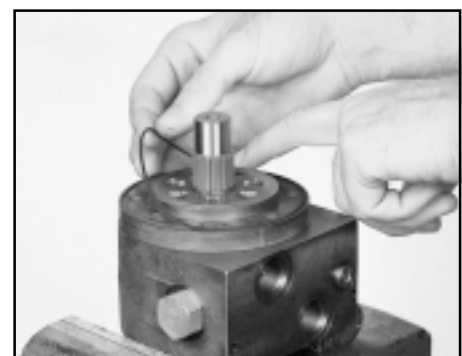

Figure A16
20. Install a o-ring into the grove in the commutator plate (7) then place the check balls (8) on their seats on the commutator plate. Assembly grease can be used to hold the check balls in place during assembly. SEE FIGURE A16